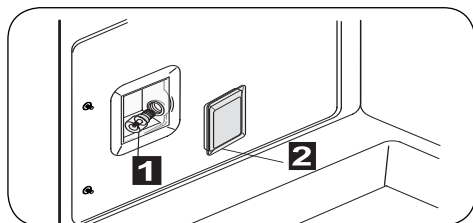

Fig. 8
**Lamp holder (fig.8):** Turn glass protection cap **2** counterclockwise and change the lamp **1**.